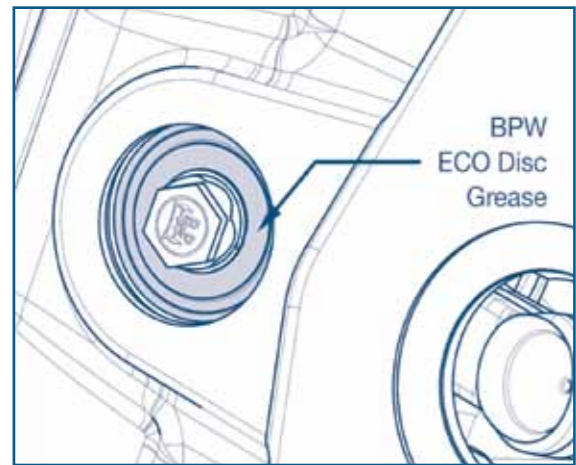

Fig 1
5. Refit rubber plug ensuring the 'O' ring is seated correctly on the plug and the plug is seated correctly in the caliper. See Fig 1, 2 below.